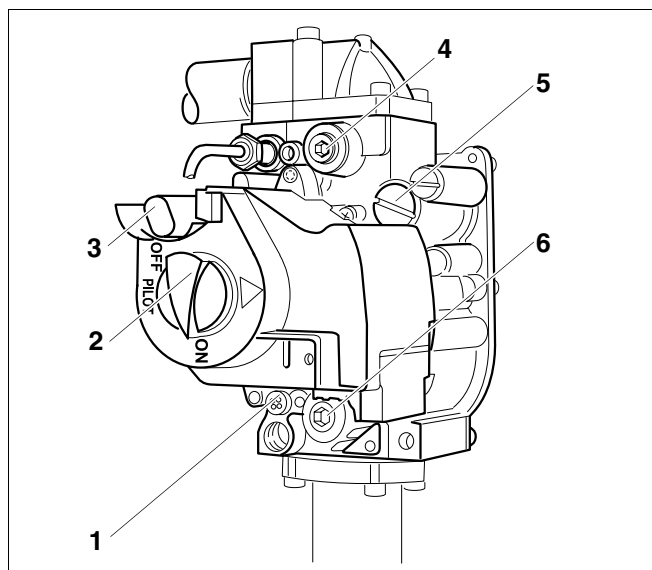

Fig. 35 G124X SP gas valve
41. Check pilot gas line for leaks with soap solution. If no leaks are found, continue with step 43. If leaks have been found, switch ON/OFF switch on gas valve (→ Fig. 35, page 36) clockwise to the OFF position.
The adjustment screw is behind the pilot burner pressure adjustment safety screw (→ Fig. 35, page 36).